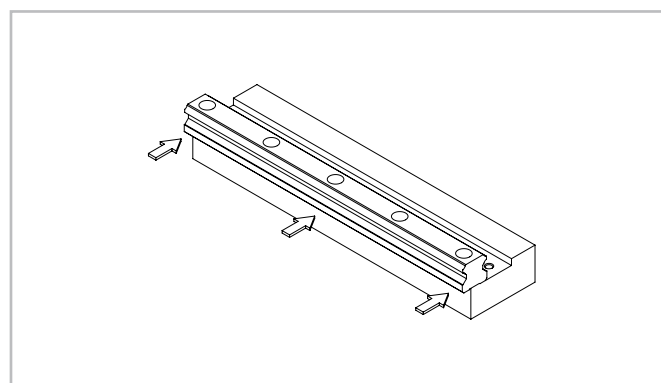

Fig. 40
(2) Carefully lay the guide rail on the assembly surface (see fig. 40) and slightly tighten the fixing screws so that the guide rail lightly touches the assembly surface